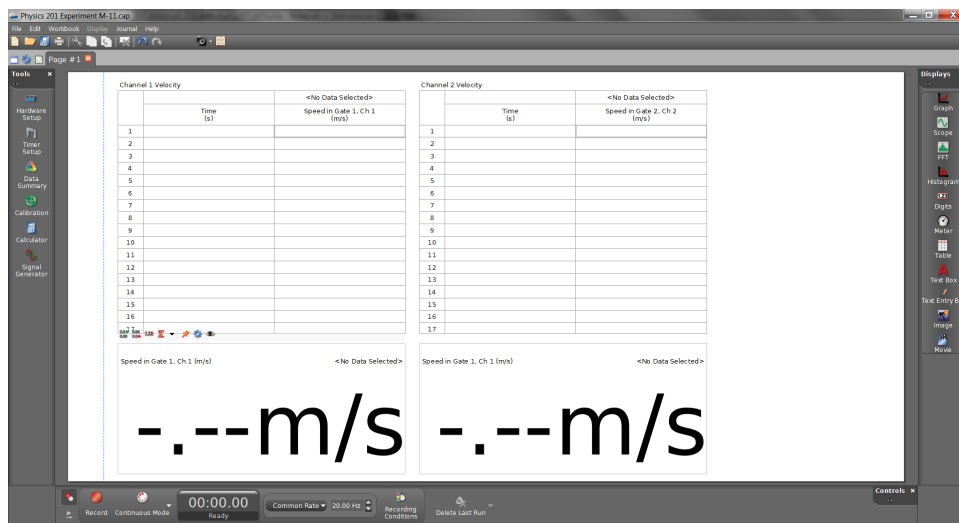

Figure 1: The Pasco Capstone display for M11.
4. Start the PASCO software by double-clicking "Experiment M11" in the PASCO/Physics 201 folder on the desktop. The monitor should now look as shown in Figure 1 below. Be sure to check the "Flag Length" constant for BOTH photogates in the setup window. It should be set to 10 cm.